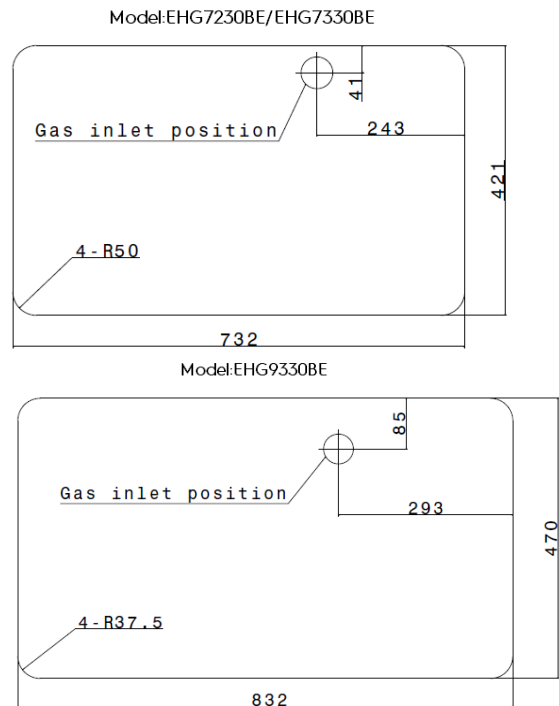

Fig. 7 (in mm)
- Cut the opening in the bench top by the cardboard - template given in the hob packing or to the dimensions shown in Fig 7.
- Install the hob in the cut-out (Fig 7)